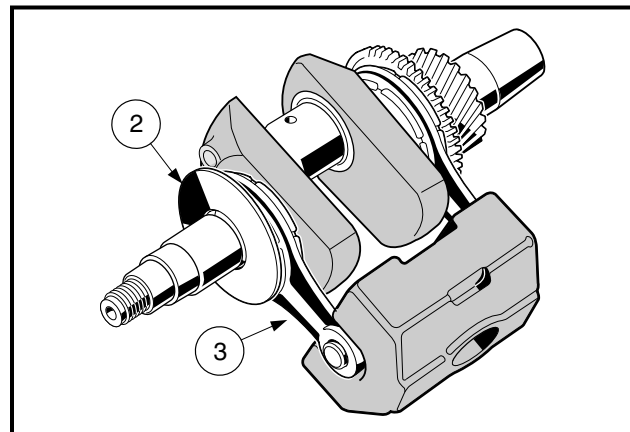

Figure 3-67 Crankshaft and Counterbalance
2. Pull out the crankshaft and the counterbalance together as an assembly (Figure 3-67, Page 3-32).
1. Slide the spacer (2) and the link rod (3) off the flywheel end of the crankshaft. Remove the counterbalance from the remaining link rod (Figure 3-67, Page 3-32). **Go to Link Rod Inspection on page 3-34.**